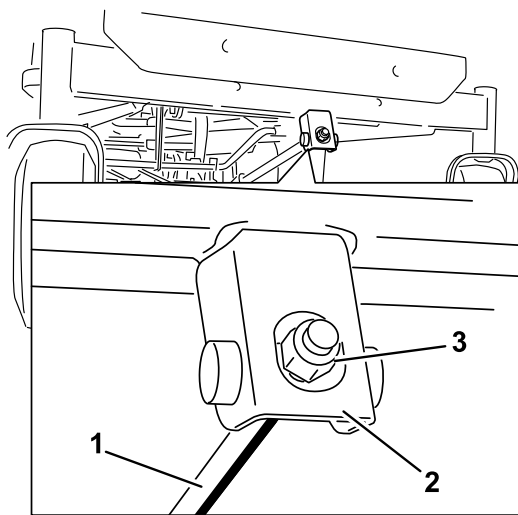

Figure 66
6. To adjust the front-to-rear blade slope, rotate the adjustment nut in the front of the mower (Figure 66).